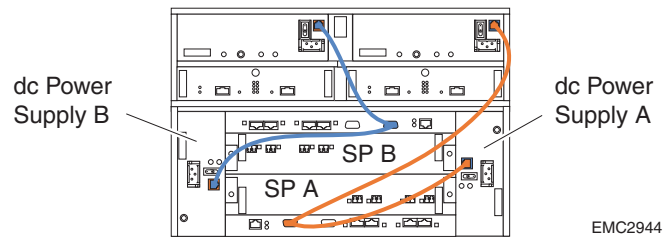

Figure 2-7 Connecting dc Power Supplies to the CX700 and DAE2 SPS Ports
1. Connect Y-shaped sense cables (sometimes called SPS emulator cables) between each power supply, the SPS serial connector on its corresponding storage processor, and the first DAE2 as shown in Figure 2-7 on page 2-12.